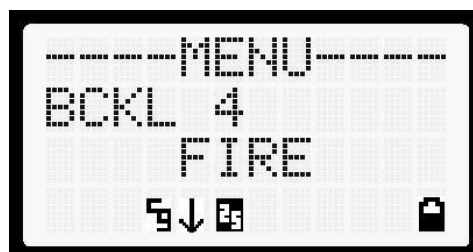

Figure 7-8: Backlight Menu Display
3. Press **M**. The backlight menu item is activated. Line one shows the active menu item and its current parameter setting. Line two shows the currently selected system or group name (see Figure 7-8).